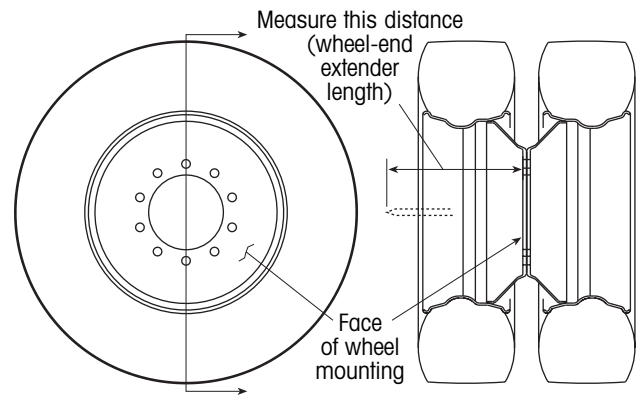

Figure 17. Measuring wheel-end extender length
- a. Measure the length of one wheel-end extender. Measure from the face of the wheel mounting to the tip of the wheel-end extender (figure 17).
- Measure wheel-end extender length. Measure from the face of the wheel mounting to the tip of the wheel-end extender (figure 17).